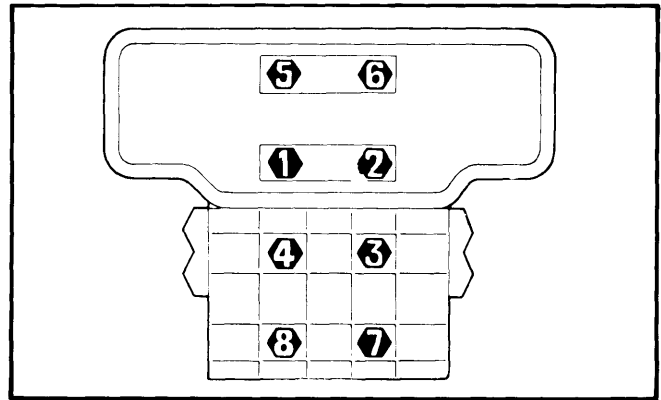

Fig. 7 Tightening Sequence for Main Bearing Nuts
2) Be sure crankcase and block are flush at rear end, and tighten main bearing nuts to 22 ft. lbs. torque. Use sequence shown in Fig. 7. Then back off No. 1 nut and retorqued to 22-25 ft. lbs. Using a protractor tool (5098), tighten nut an additional 73-77°. Continue in sequence retorquing one nut at a time.